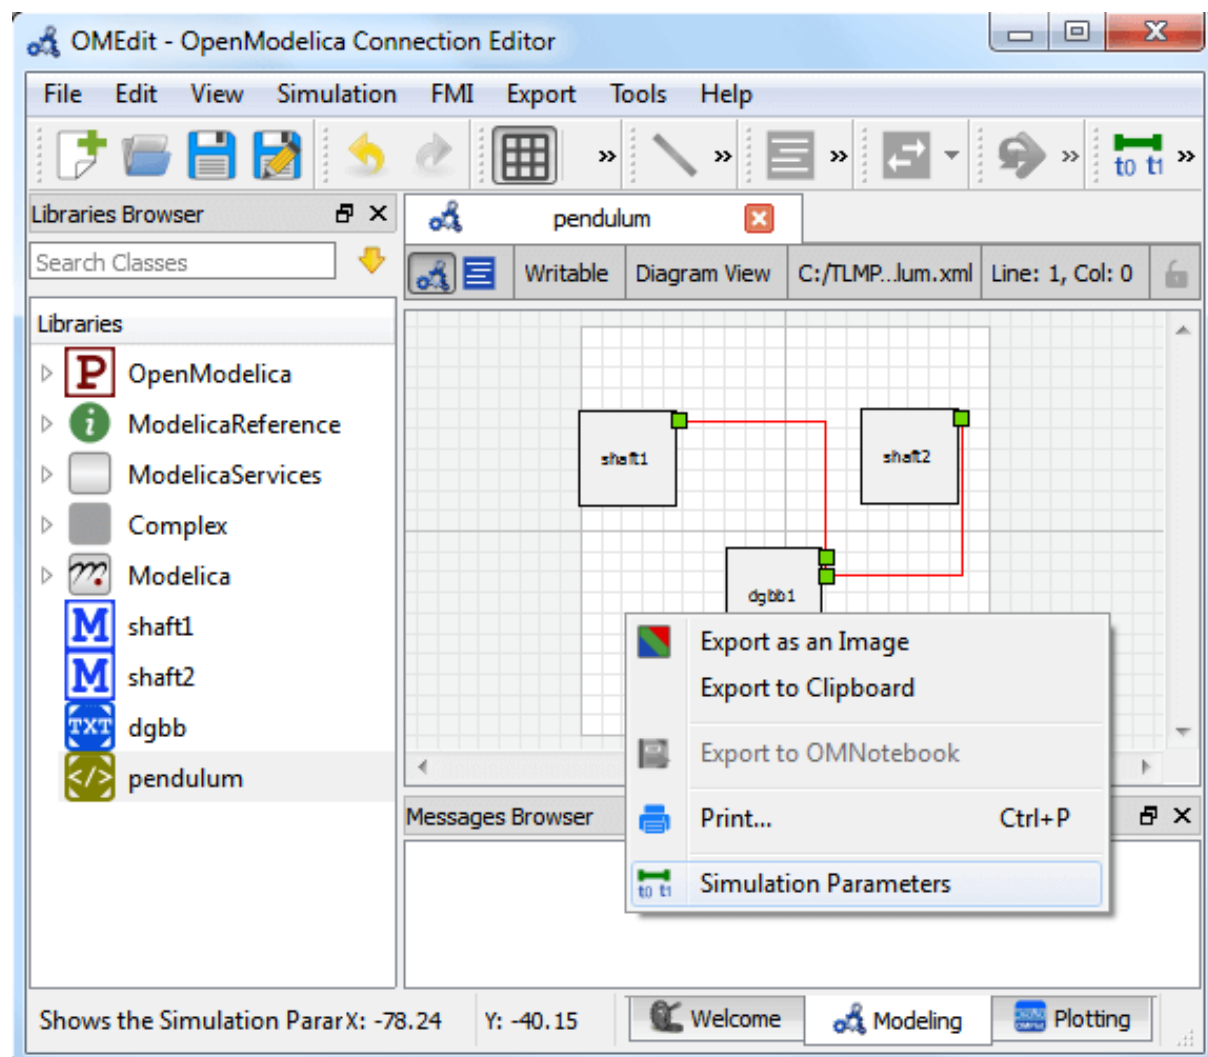

Figure 9.15: Changing Co-Simulation Parameters from the Popup Menu.
- Right click an empty location in the Diagram View of the composite model and choose **Simulation Parameters** from the popup menu (see Figure 9.15)